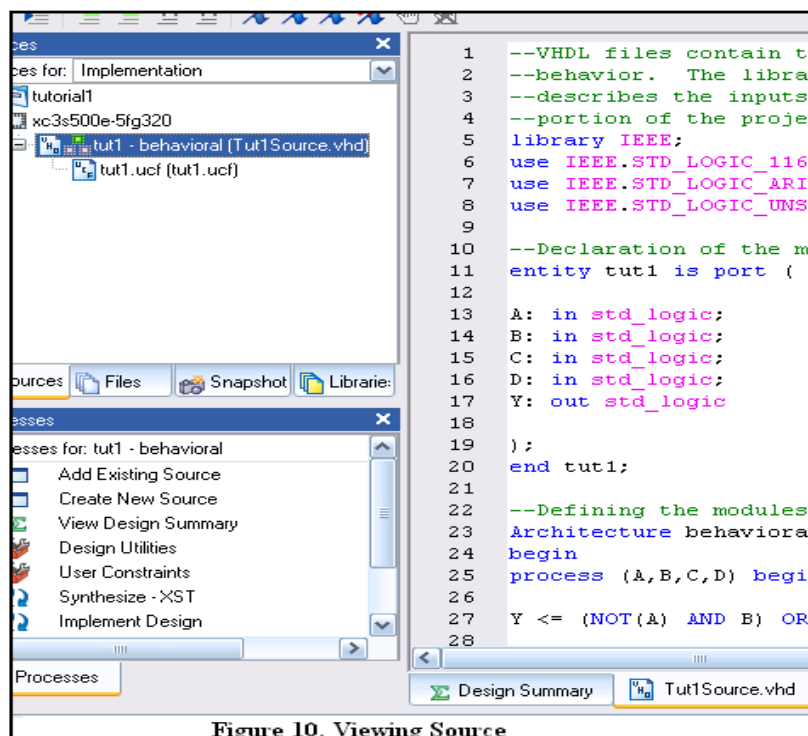

Figure 10. Viewing Source
8. By double-clicking on the Tut1Source.vhd file you can see the source file in the text editor screen. The source code is commented and somewhat easy to follow. In the sources tab, click on the down arrow and select Behavioral Simulation. See figure 10.